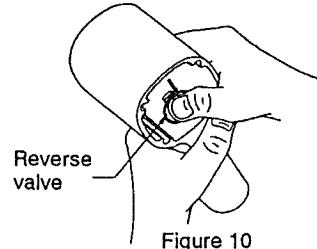

Figure 10
2. Insert thumb into the front of the Housing and push down on the Reverse Valve so that it can be removed through the bottom of the handle. See Figure 10.